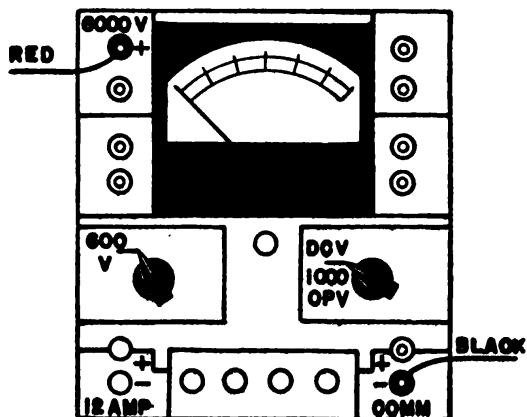
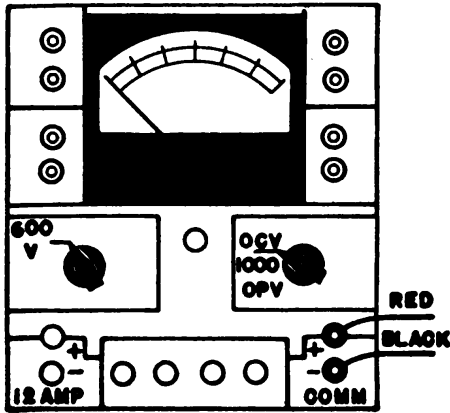

FIG. 5D: O-1200 V, O-6000V,
FIG. 6A: 0-3V, 0-12V, 0-60V,
**a.** When using 0-1,200 volt and 0-6,000 volt d-c ranges at 1,000 ohms-per-volt, see figure 5D and table I for switch positions, meter scales, and jack connections, and proceed as follows:
- (1) Observe the cautions for voltage measurements, particularly the high-voltage precautions.
- (2) Set the circuit selector switch to D.C.V. 1,000 O.P.V. position.
- (3) Set the range selector switch to 600 V. position.
- (4) Insert the black test lead into the —COMMON tip jack and the red test lead into either the +1,200 V. or +6,000 V. tip jack, depending upon the range desired.
- (5) For the 0-1,200 volt range, multiply reading on the black 0-12 d-c scale by 100.
- (6) For the 6,000 volt range, multiply the reading on the black 0-60 d-c scale by 100.
**b.** When using 0-3, 0-12, 0-60, 0-300, or 0-600 volt ranges at 1,000 ohms-per-volt, see figure 6A and table I for switch positions, meter scales, and jack connections, and proceed as follows:
- (1) Observe the cautions given for voltage measurements.
- (3) Set the range selector switch as follows: